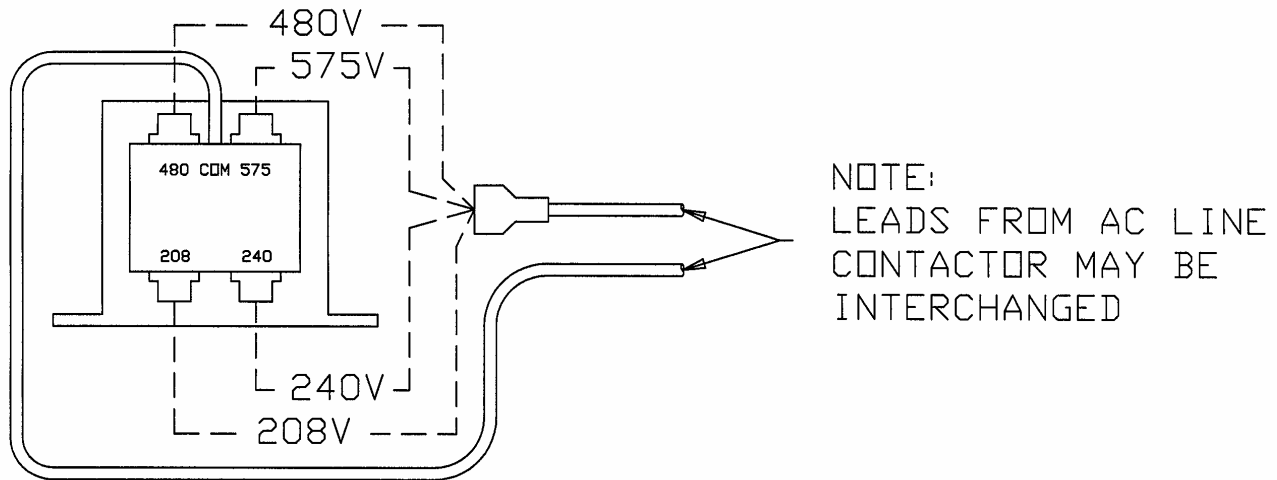

Figure 10.4 A.C. Voltage Selection of Control Transformer
- Locate the control transformer. Change the primary input connection in accordance with the voltage printed on the transformer. (Refer to Figure 10.4)